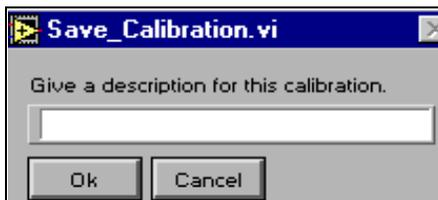

Figure 17. Enter calibration name here.
- Follow the directions on the screen. When you save the calibration, a pop-up window appears asking for a calibration description (see Figure 17). Enter a description (for example, "0-100 mg calibration for Leg 180") and click **OK**.